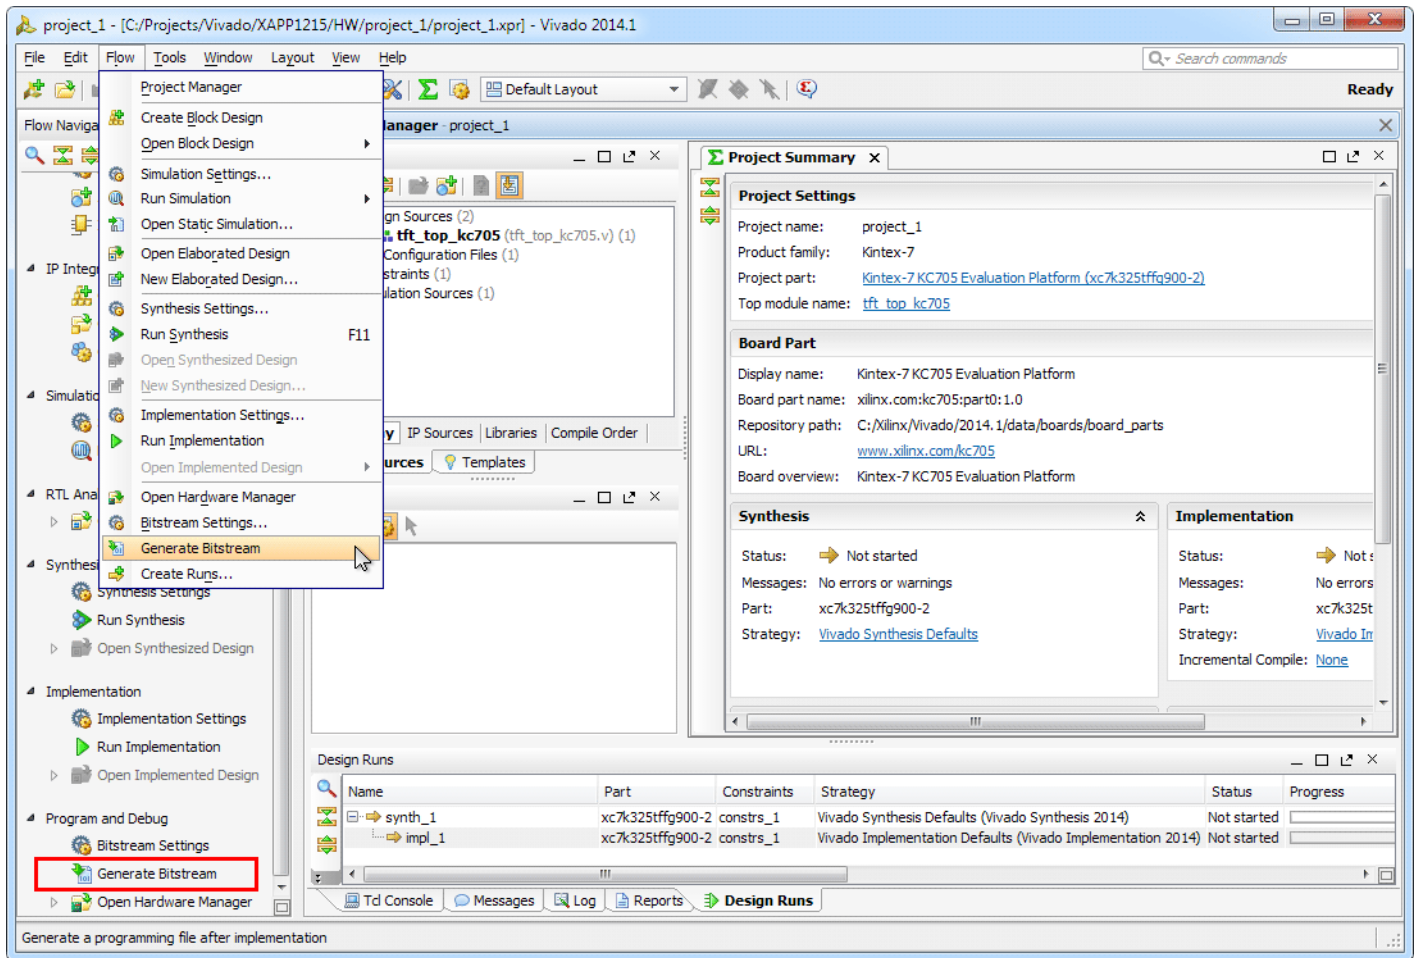

Figure 4: Generate Bitstream
5. Select **Flow > Generate Bitstream** or click **Generate Bitstream** under **Program and Debug** in the Flow Navigator pane (Figure 4). Click **Yes** if prompted to run Synthesis and Implementation.